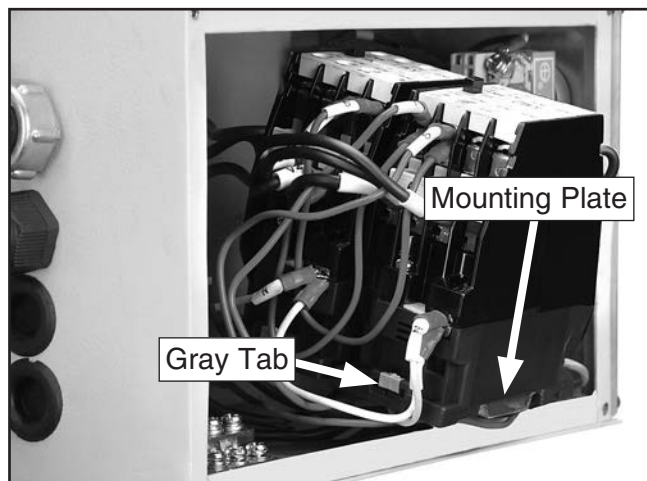

Figure 7. Contactor release tab location.
4. Remove the screws that secure the brass contactor mounting plate to the back of the electrical box, then pull the contactors out to access the gray tab shown in **Figure 7**. Pull outward on the gray tab to release each contactor from the mounting plate.